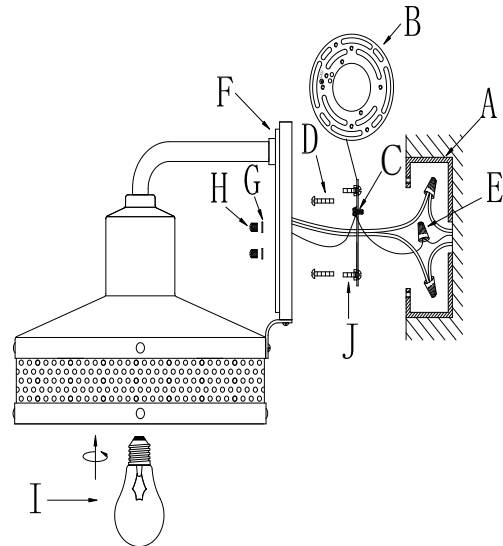

Fig.2
CONNECTING THE WIRES (Fig. 2)
4. Connect electrical wires as shown in Fig.2 making sure that all wire connectors (E) are secured. If your outlet box (A) has a ground wire (green or bare copper), connect fixture's ground wire to it. Otherwise, connect fixture's ground wire directly to circular strap (B) using green screw (C) provided.
5. Tuck wire connectors neatly into the outlet box (A).